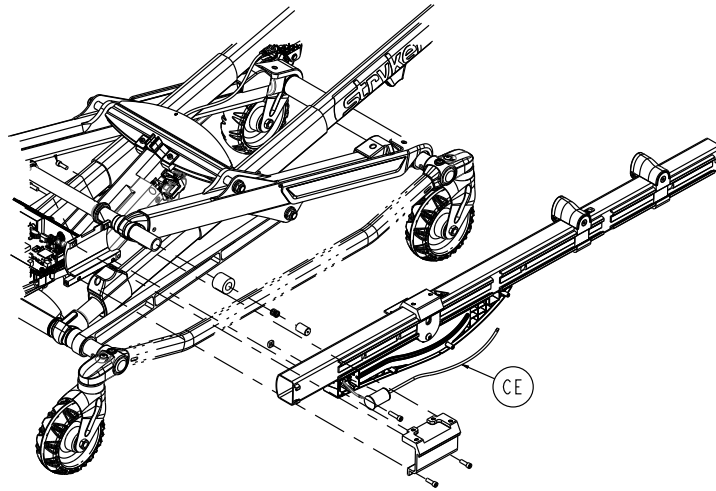

Figure 59 – Remove the MTS sensor
10. Remove the MTS sensor (CE) (Figure 59).